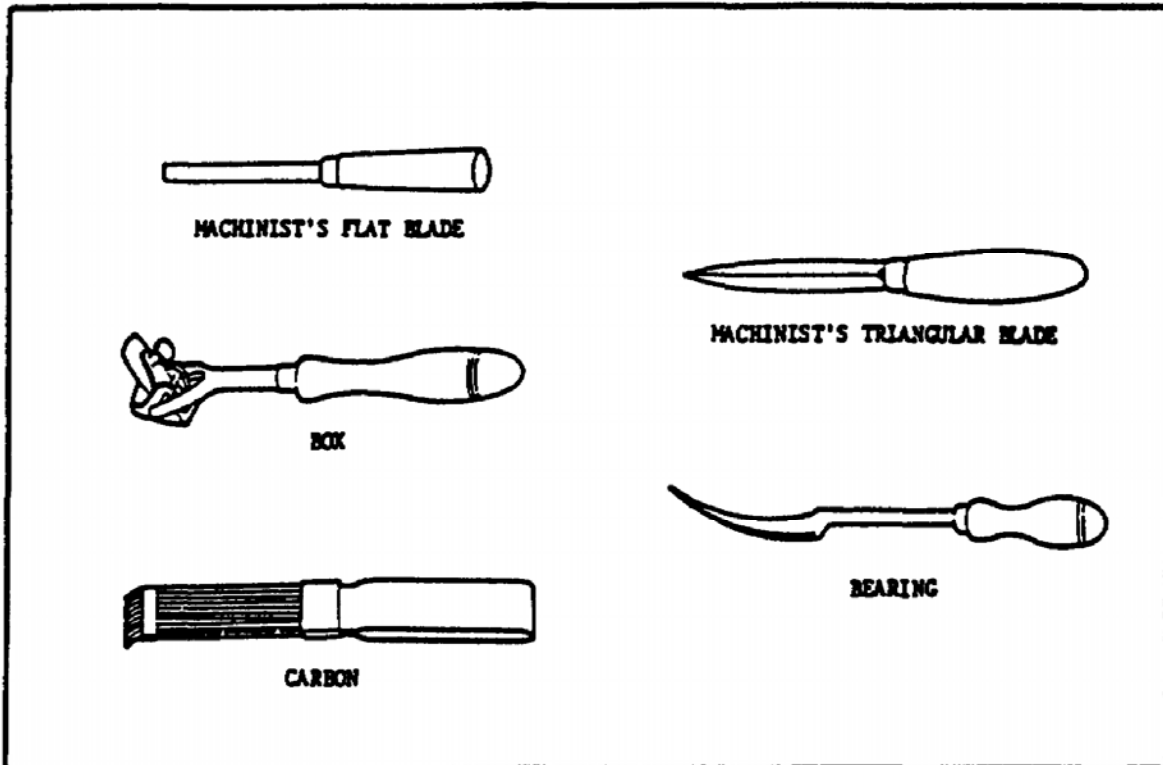

FIGURE 108. TYPES OF SCRAPERS.
a. *Purpose.* Some scrapers (figure 108) are used for trueing metal, wood, and plastic surfaces which have previously been machined or filed. Other scrapers are made to remove paint, stencil markings, and other coatings from various surfaces.
(1) *Carbon Scraper.* Carbon scrapers (figure 108) are flexible and have an overall length of 9 inches. The carbon scraper consists of 10 spring steel blades with flexibility controlled by a sliding ferrule.
(2) *Bearing Scraper.* Bearing scrapers (figure 108) are used to scrape the babbitt metal bearings that are used in many Army vehicles and equipment. Bearing scrapers are issued with a 1 1/2, 2, and 4 inch cutting edge.